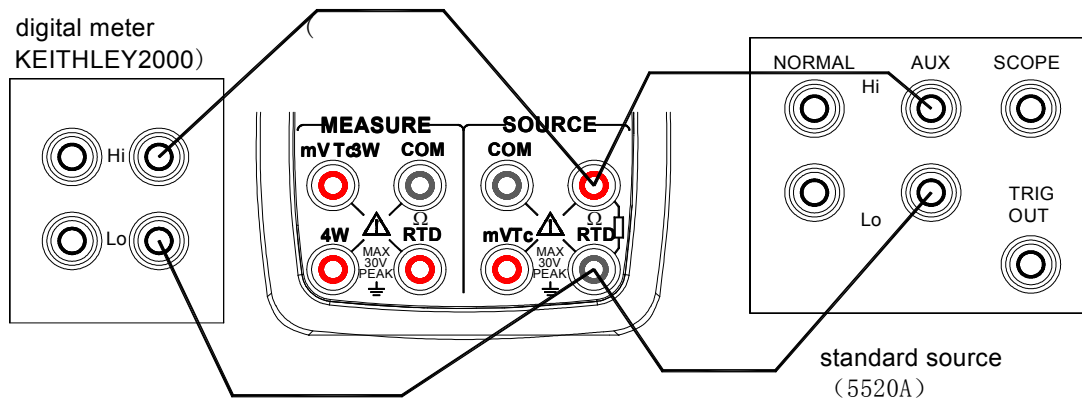

Figure 15 Adjusting resistance source
**Step 1:** Using the (OHM) key, select resistance function. Connect the lead cables for measurement to the standard digital meter as shown in Figure 15.